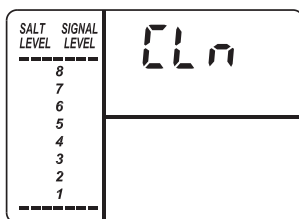

FIG. 17
- Light flashing slowly, with "CLn" flashing in the display (See Fig. 17) - Four months have elapsed on the system's timer since start up or the last reset.